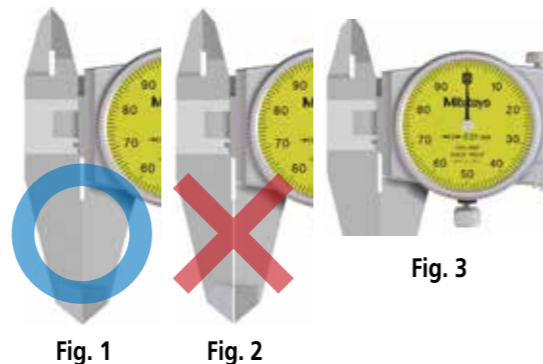

Fig. 7
2. Open the outside measuring jaws by approximately 0.2 to 2 mm, leave the locking screw untightened, and then store the instrument. (Fig. 7)